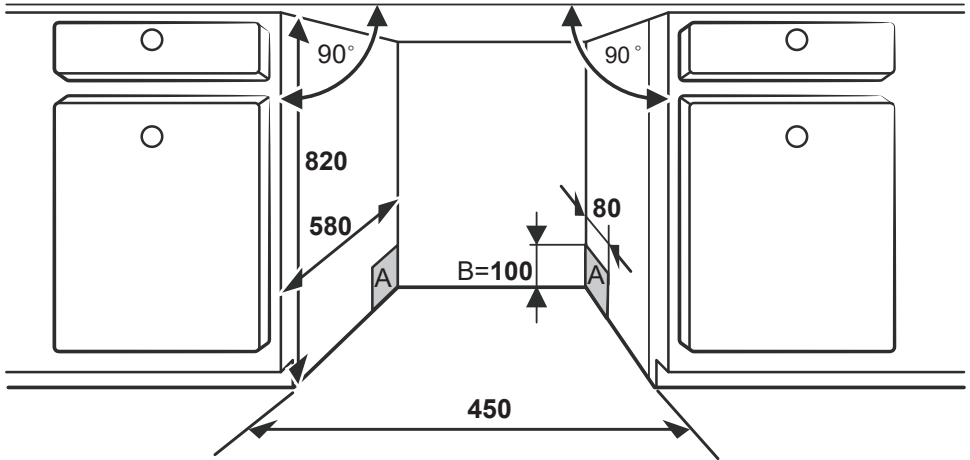

Figure 1
1. Choose a place near the sink to facilitate the installation of inlet and drain hoses (see figure 1).
7. Place the dishwasher **into position**.(Figure 1)